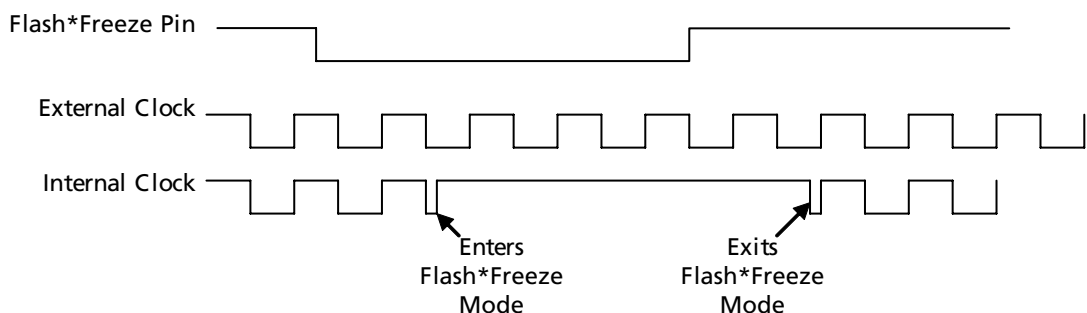

Figure 2-5 • Narrow Clock Pulses During Flash*Freeze Entrance and Exit
- While entering Flash*Freeze mode, inputs, globals, and PLLs will enter their Flash*Freeze state asynchronously to each other. As a result, clock and data glitches and narrow pulses may be generated while entering Flash*Freeze mode, as shown in Figure 2-5.
- Actel recommends using a completely synchronous design in Type 2 mode with Flash*Freeze management IP cleanly gating all internal and external clocks. This will prevent narrow pulses upon entrance and exit from Flash*Freeze mode (Figure 2-5 on page 2-9).